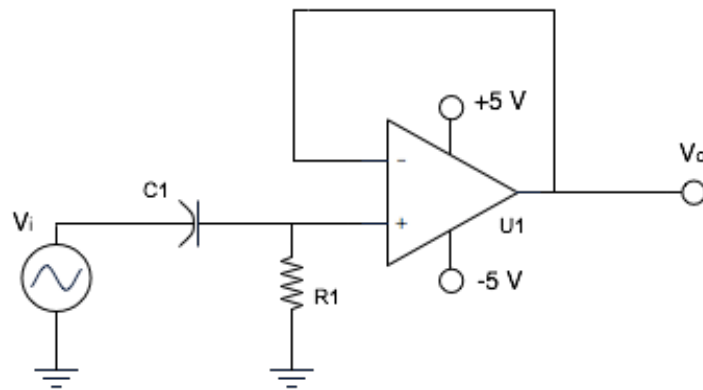

Figure 5: Filter 2
- Build the circuit in Figure 5 from the preliminary on a breadboard. Use the same component values of  $R=22k\Omega$  and  $C=.0047\mu F$ . Use a power supply to power the op-amp with +5 and -5 volts and connect a function generator as the circuit input. **\*\*\*Do not use the same ground connect for  $V_i$  and the op-amp, your readings will be incorrect.** Set the function generator to 2  $V_{pk-pk}$  sine wave starting at a frequency of 1Hz. Use the oscilloscope to observe the output of the circuit and the voltage output of the function generator (use a “T” connector at the function generator output). Record the initial peak-to-peak output of the circuit ( $V_{pk-pk}$ ).